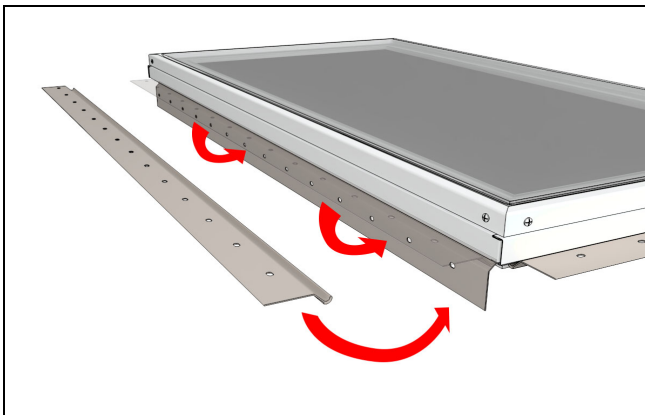

Figure 42
**13.** Install mounting flanges. Install on ground, may need to use force to insert in kerf. Corners of flange are sharp, use caution when installing. See Figure 42.